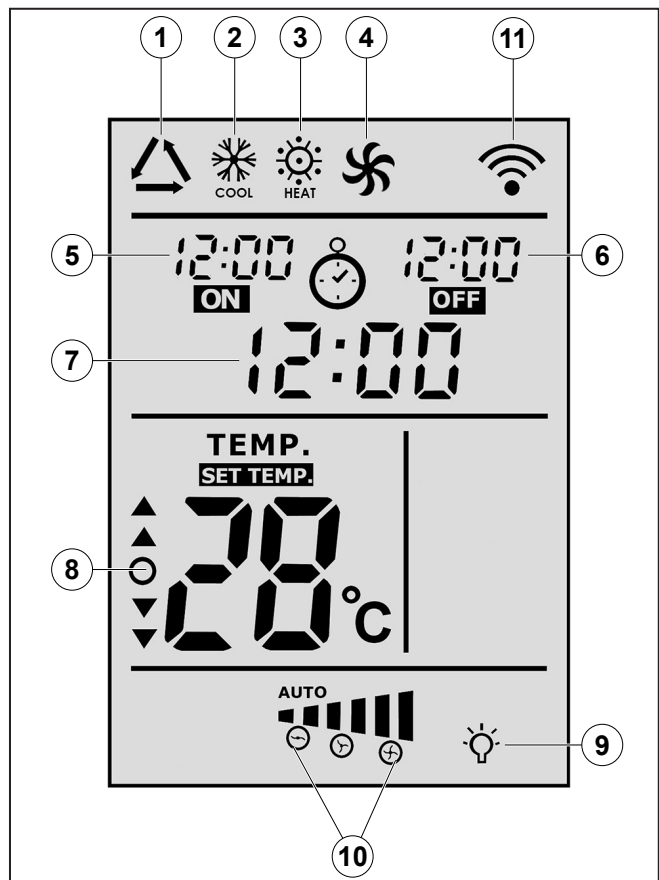

Fig. 4
1. **Display** (for details see "Fig. 4")